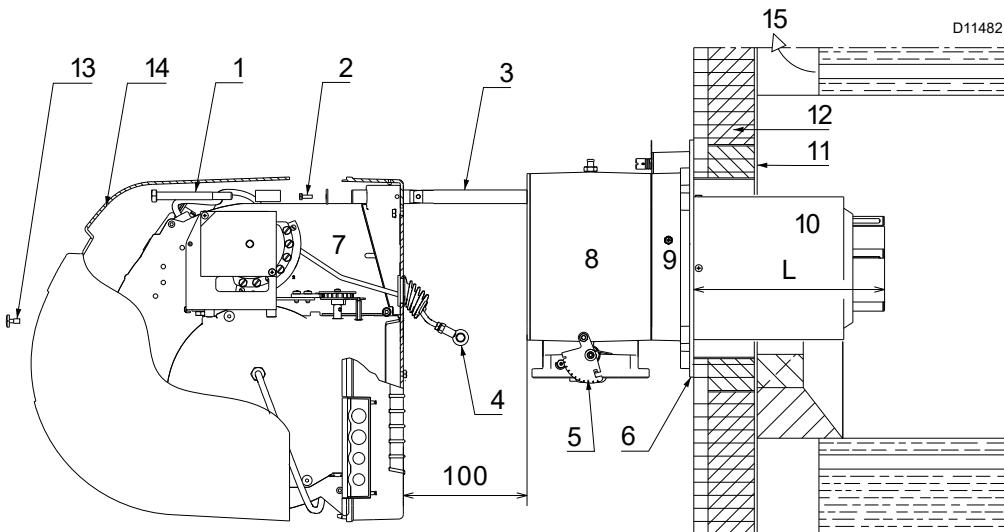
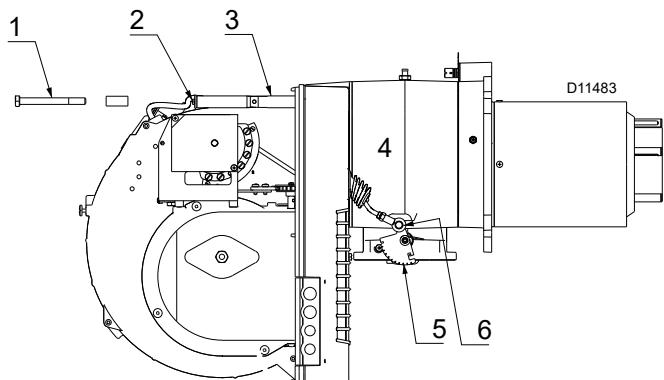

Fig. 10
Fig. 15
Separate the combustion head from the rest of the burner, (Fig. 10).
For boilers with front flue passes 1) (Fig. 10) or flame inversion chamber, a protection in refractory material 5) must be inserted between the boiler fettling 2) and the blast tube 4).
For boilers with a water-cooled frontpiece, a refractory lining 2)-5) (Fig. 10) is not necessary, unless expressly requested by the boiler manufacturer.
- Fix the flange 9) (Fig. 10) to the boiler plate inserting the supplied insulating gasket 6) (Fig. 10).
Once the head is adjusted, reassemble the burner on the guides 3)(Fig. 15) at about 100 mm from the pipe coupling 4) - burner in the position shown in Fig. 10 on page 14
- Insert the probe and electrode cables, then slide the burner as far as the pipe coupling - burner in the position shown in (Fig. 15).